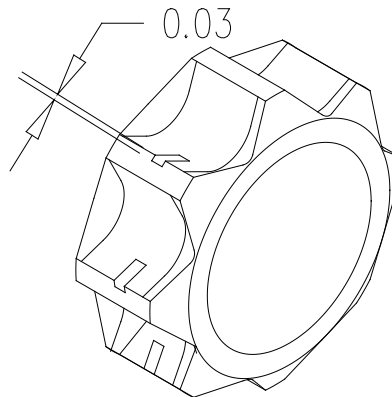

Figure 4-4
1. Check the wear marks on the driving face. Replace the drive sprocket before the wear marks are deeper than 1/32" as shown in Figure 4-4. The outside diameter is also wearing surface. Do NOT turn around and continue using a worn drive sprocket. A worn drive sprocket will increase wear on the chain chassis.